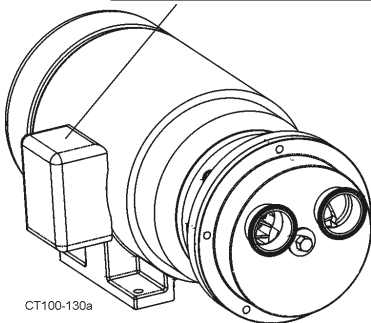

Figure 7 - Replaceable Label Location
- Check motor nameplate to confirm motor is compatible with all wiring, switches, starters and electrical supply. Ensure overload protections are correctly sized (Figure 7).